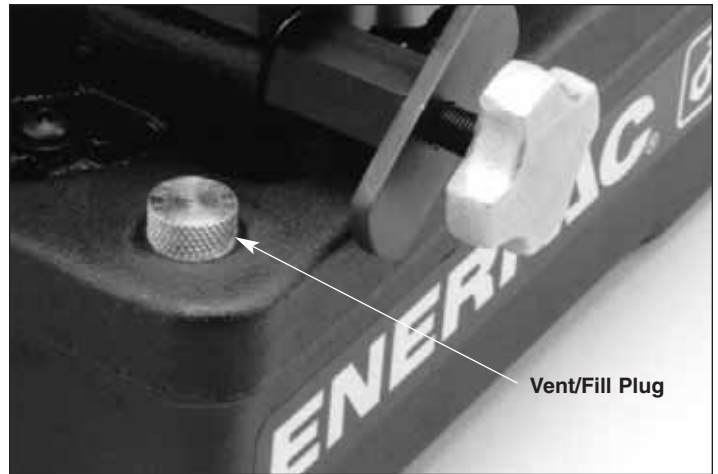

Figure 6, Vent/Fill Plug
1. Remove the vent/fill plug from reservoir. (See Figure 6.)